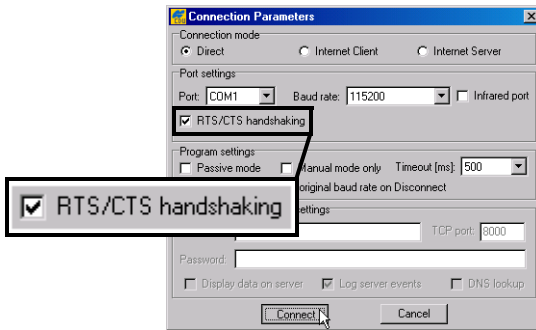

Figure 4-2. Connection Parameters – RTS/CTS Handshaking
2. On the **Connection Parameters** dialog box, enable *RTS/CTS handshaking* and click **Connect** (Figure 4-2).